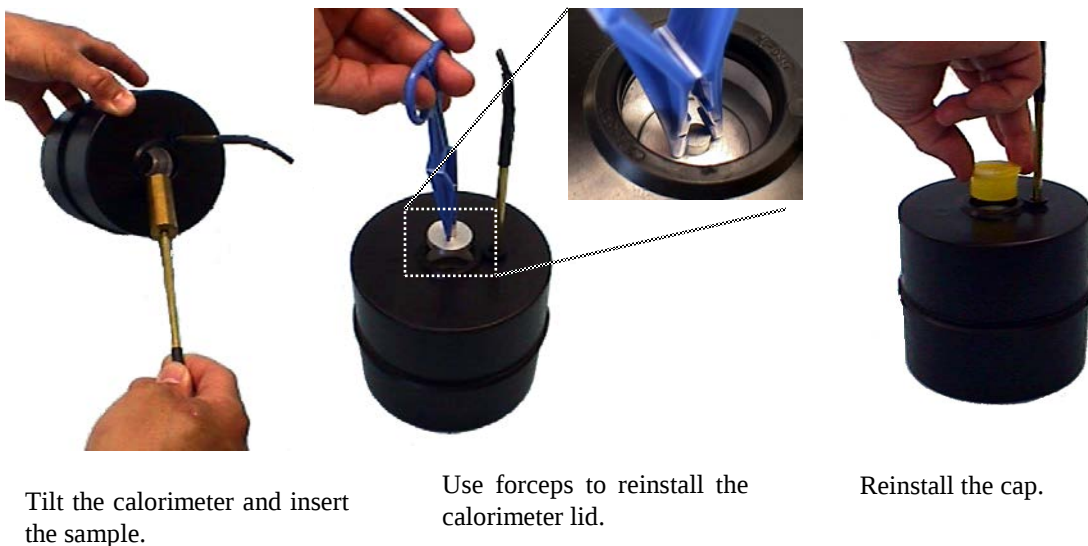

Figure 8.5. Installing the sample in the calorimeter.
13. Once the brass sample temperature is about 60 - 80° C, remove the hot brass sample from the heater. The following steps (illustrated in Figure 8.5) must now be completed without wasting any time between steps: